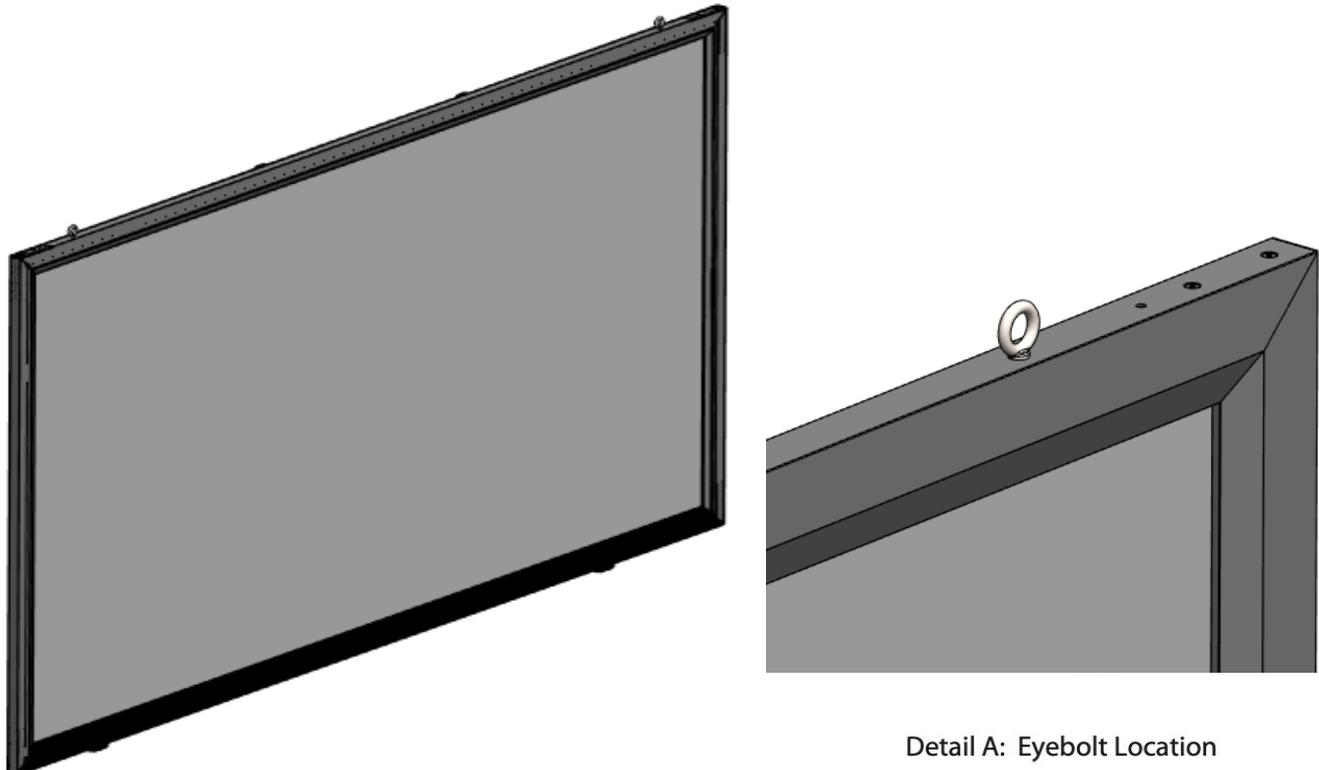

Figure 10: Eye Bolts Mounted Securely to the Frame
2. Use the Eye Bolt Mount to suspend the screen. Eye bolts are already secured to the frame making your WallScreen ready for installation to an appropriate surface (see Figure 10).